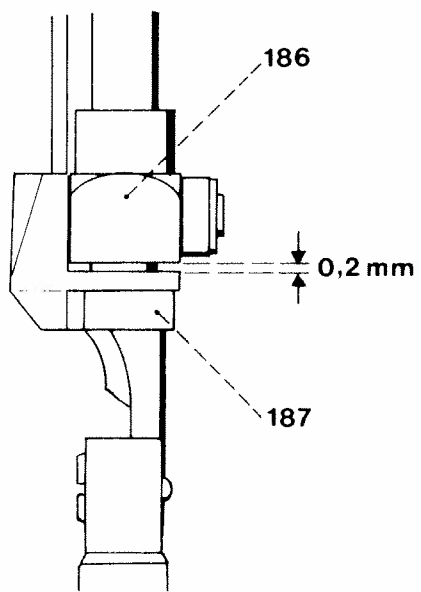

Fig. 8a
- Set guide piece 187 at a clearance of 0.2 mm from cross head 186 (Fig. 8a).